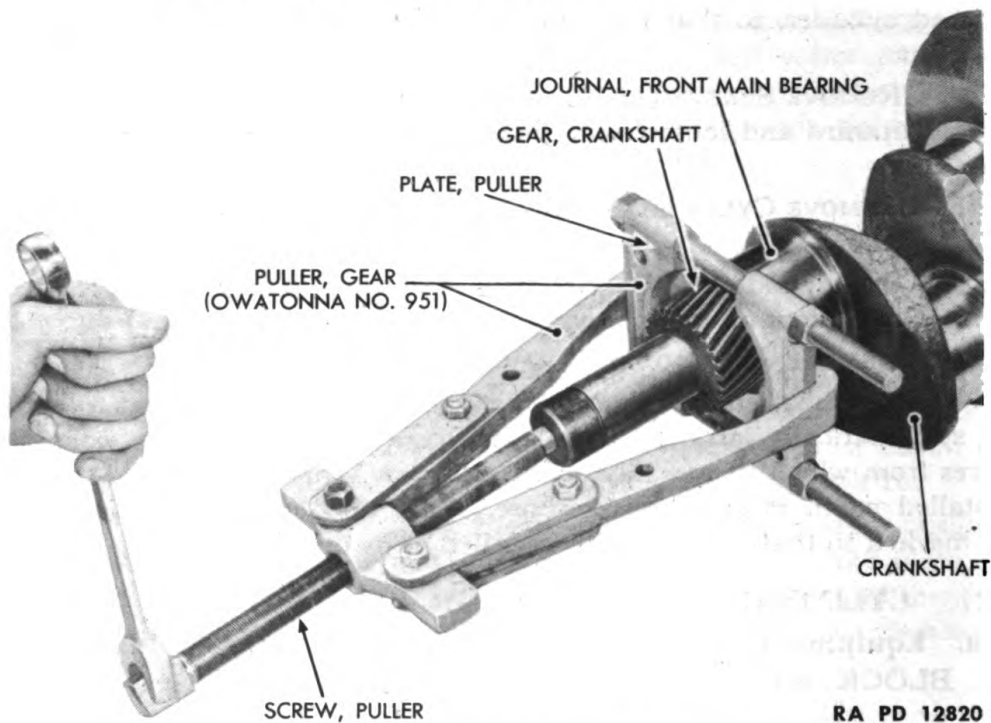

Figure 121—Removing Gear from Crankshaft
(1) ATTACH PULLER PLATE (fig. 121).
(2) ATTACH PULLER (fig. 121).